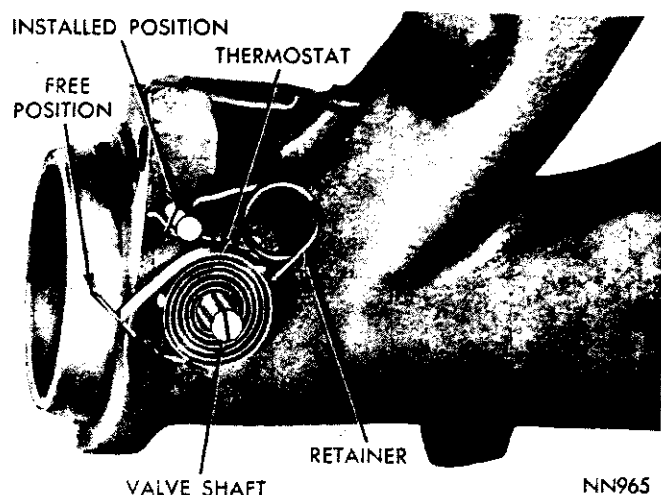
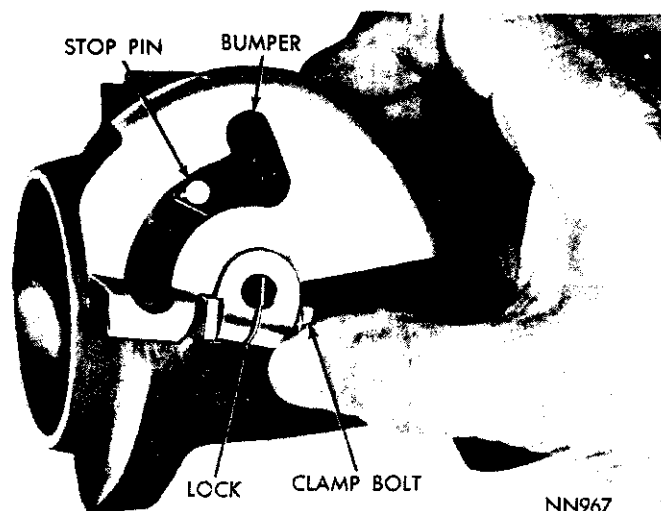

Fig. 17—Installing Thermostat (426 Hemi Engine)
Fig. 18—Installing Counterweight (426 Hemi Engine)
(2) Install a new thermostat in slot in shaft (Fig. 17) with outer end of thermostat in lower left hand position. Press inner end of thermostat into shaft and seat firmly.
(3) Wrap outer end of thermostat **counterclockwise** and engage under stop pin.
(4) Install counterweight on outer end of valve shaft with lock engaged in valve shaft slot and bumper on right hand side of stop pin (Fig. 18).
(5) Tighten clamp bolt to 50 inch-pounds with C-3380 Torque Wrench. Test operation of valve for freedom of movement.